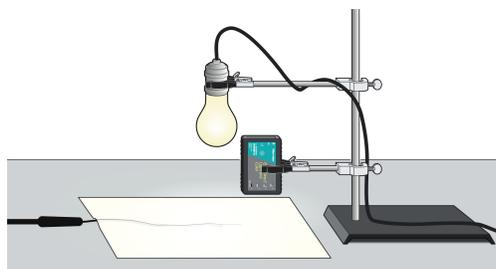

Figure 3
- d. Use a utility clamp and ring stand to fasten a Light Sensor 5 cm above the paper (see Figure 3).